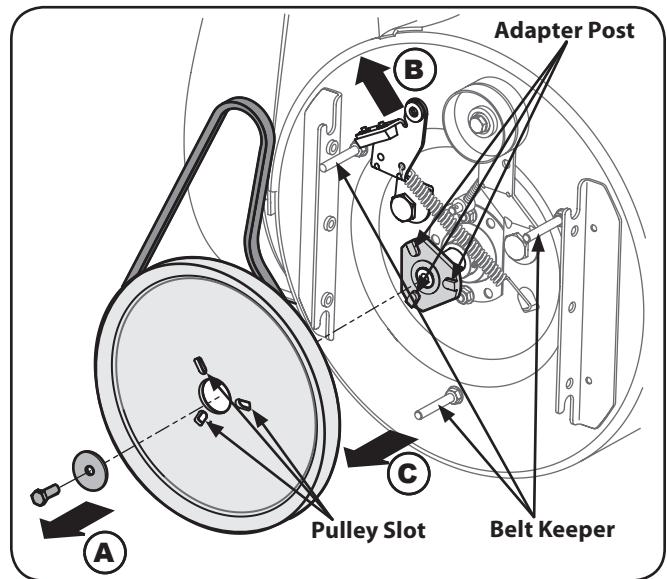

Figure 7-7
6. Block the impeller with a piece of wood to prevent from spinning and use a 1/2" wrench to remove the hex screw and flat washer from the center of the auger input shaft and auger pulley adapter. Refer to Fig. 7-7.
7. Lift the brake bracket assembly out of the pulley groove and slide the pulley assembly off the posts of the auger pulley adapter to remove the old belt. Refer to Fig. 7-7.
9. Turn the pulley as necessary to align its three slots approximately with the posts of the pulley adapter, then move the brake bracket assembly away from the input shaft. While aligning the pulley slots and adapter posts, push the auger pulley fully onto the adapter. Refer to Fig. 7-7.
NOTE: If the pulley adapter was removed with the pulley, align the splines of the pulley adapter and auger input shaft, and push the pulley and adapter onto the input shaft. Refer to Fig. 7-7.